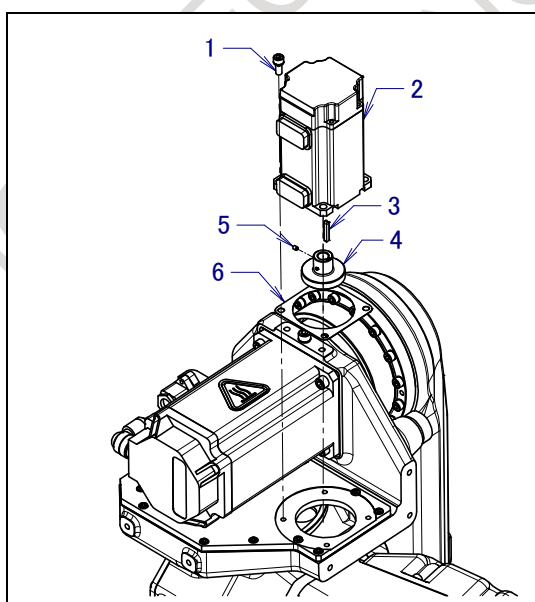

Fig. 6.10 (a) Replacing the J4-axis motor
- 6 As shown in Fig. 6.10 (a), remove the three bolts (1) that fasten the J4-axis motor to the J3 casing, and dismount the motor.
- 7 Remove the set screw (5) that fastens the gear (4) to the motor shaft, and dismount the gear (4) and key (3).
- 8 Attach key (3) and gear (4) by new motor. Apply LOCTITE 243 to set screw (5) and tighten it with torque of [0.54 Nm]. (Ensure the specified torque is achieved otherwise, the J4-axis may get out of place.)
- 9 Replace the gasket (6) with a new one and put it in the J3 casing portion where the motor is to be mounted accurately, and fasten the motor to the J3 casing with bolts (1).